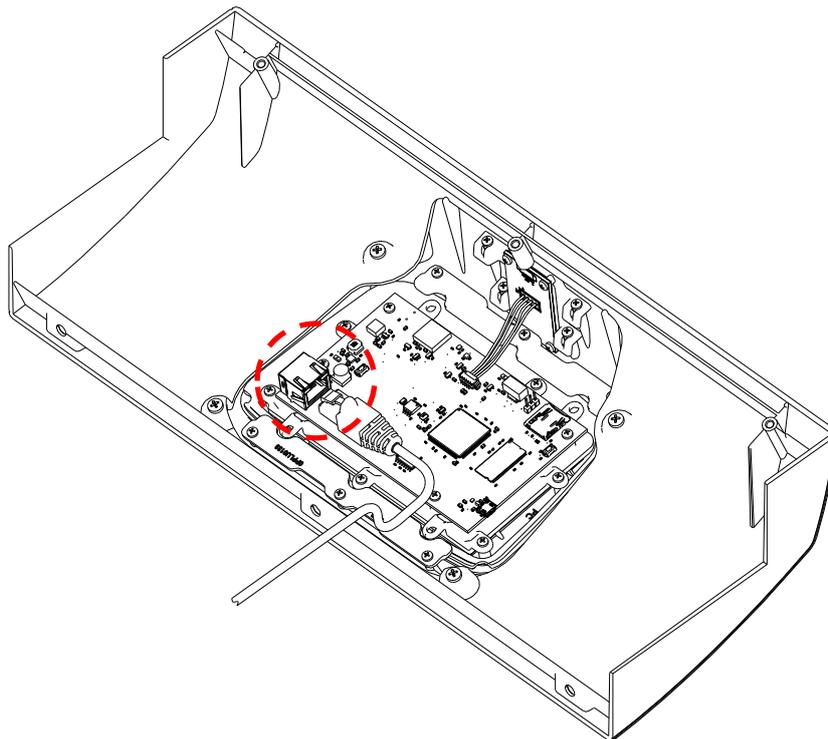

Figure 17– Display rear view
- 2) Remove the two retaining screws of the metallic support placed under the display (Figure 17).